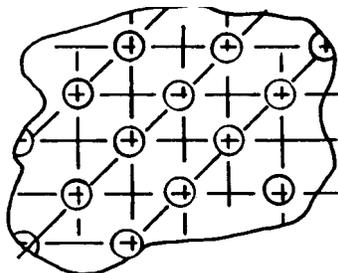

FIGURE 7—BALL INDENTATIONS
**3.11 Ball Indentations**—(Figure 7) Ball indentations on the lining surface of the bushing provide small reservoirs which retain the lubricant and are very beneficial in grease-lubricated applications, ensuring good lubrication during engine starting.